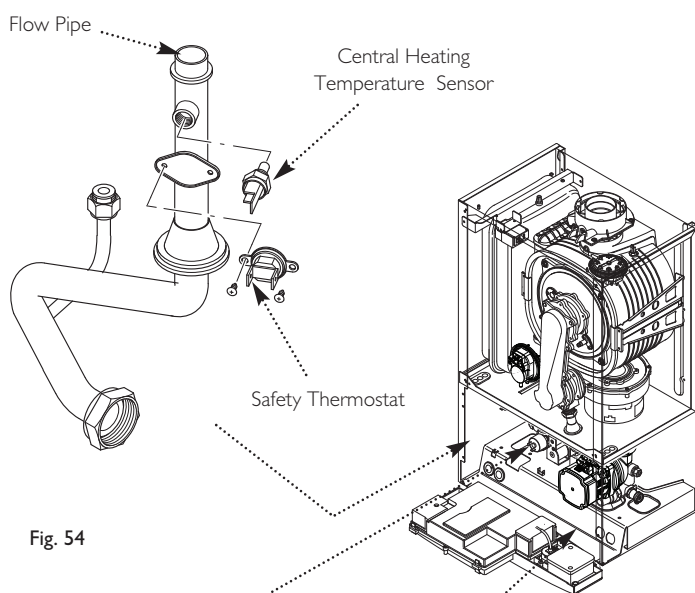

Fig. 54
13.11 Central Heating Temperature Sensor (NTC) (Fig. 54)
13.12 Safety Thermostat (Fig. 54)